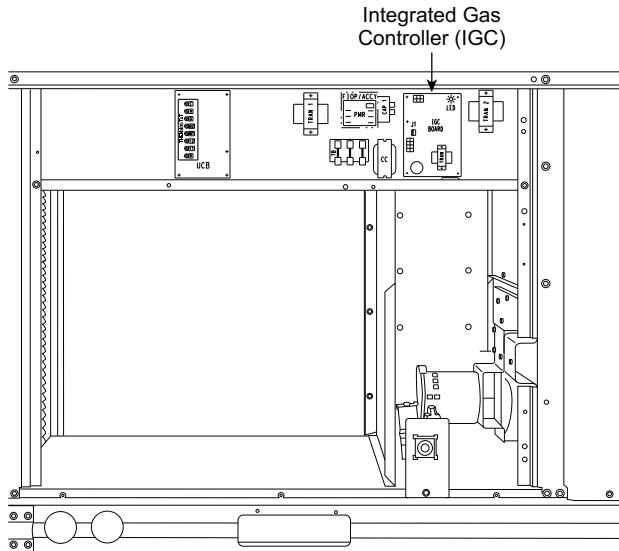
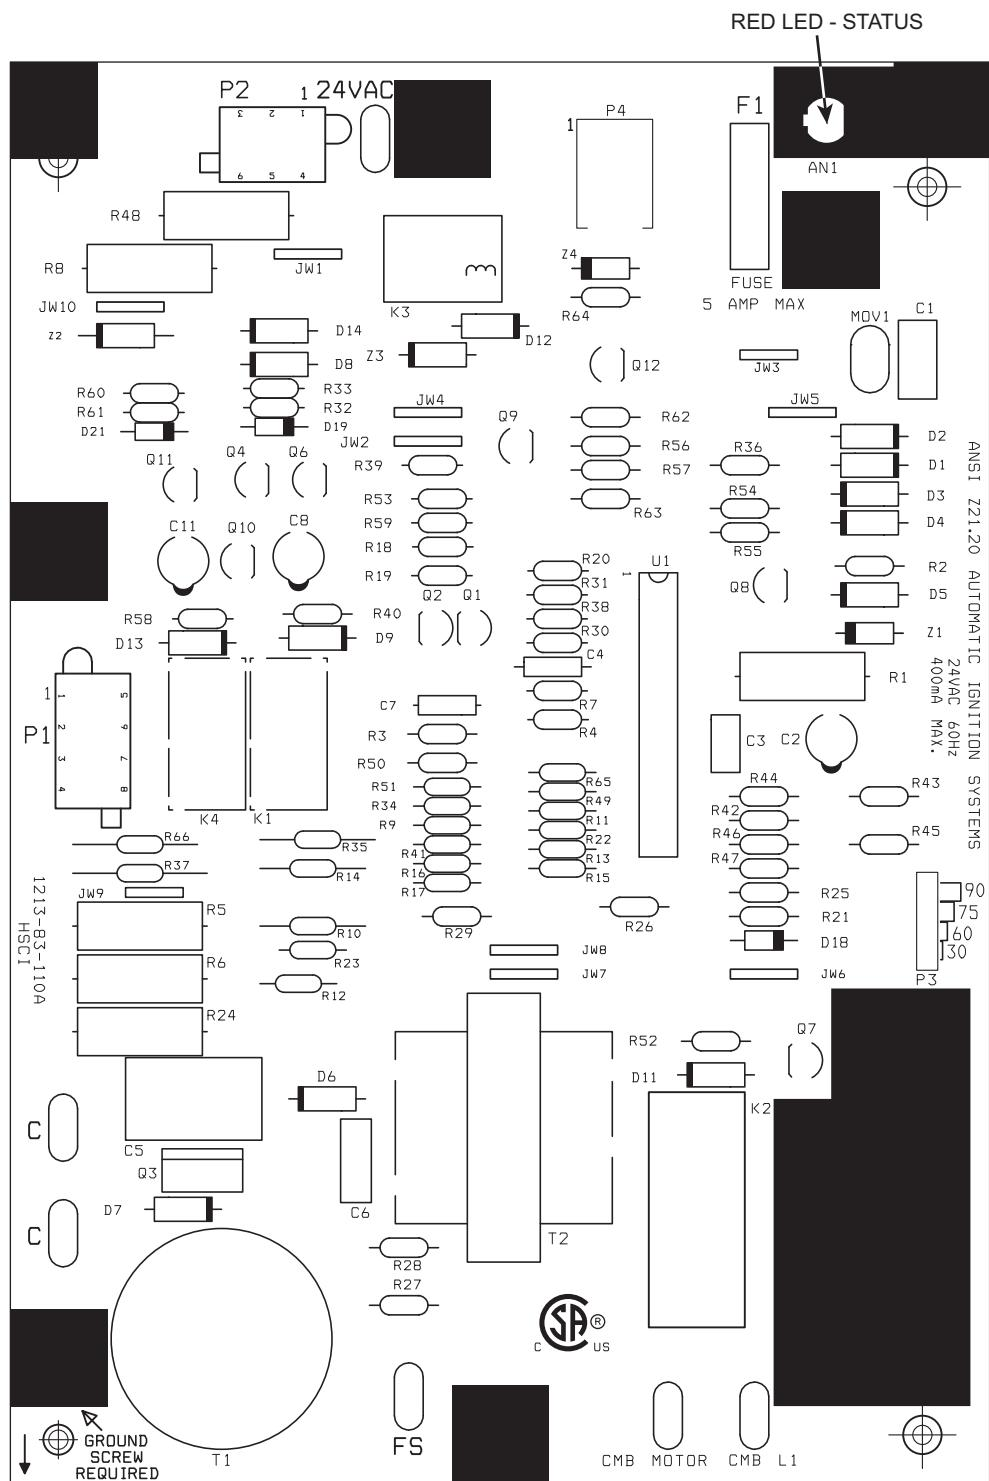

Fig. 51 — Unit Control Box/IGC Location
Fig. 55 — Integrated Gas Control (IGC) Board
8. Remove igniter wires and sensor wires at the Integrated Gas Unit Controller (IGC) (see Fig. 51).
Unit is equipped with a direct spark ignition 100% lockout system. The Integrated Gas Unit Controller (IGC) is located in the control box (see Fig. 51). The IGC contains a self-diagnostic LED (light-emitting diode). A single LED on the IGC provides a visual display of operational or sequential problems when the power supply is uninterrupted (see Fig. 55). When a break in power occurs, the IGC will be reset (resulting in a loss of fault history) and the indoor (evaporator) fan ON/OFF times will be reset. The LED error code can be observed through the viewport. During servicing, refer to the label on the control box cover or Table 9 for an explanation of LED error code descriptions.